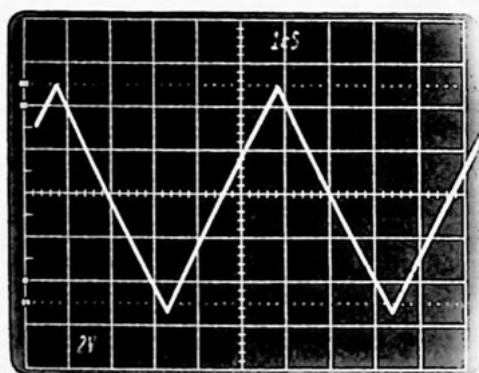

Figure 6-19
Step 15 — Change the data generation program beginning at line 100 to first generate a triangular and then a square waveform. The data generation programs required to produce these waveforms are similar to those used with the internal DAC in Experiment 3. However, you must generate 256 data values instead of 64 data values since the external NE5018 is an 8-bit DAC. When the proper changes have been made, you should observe the waveforms pictured in Figs. 6-19 and 6-20 when each respective waveform is generated.